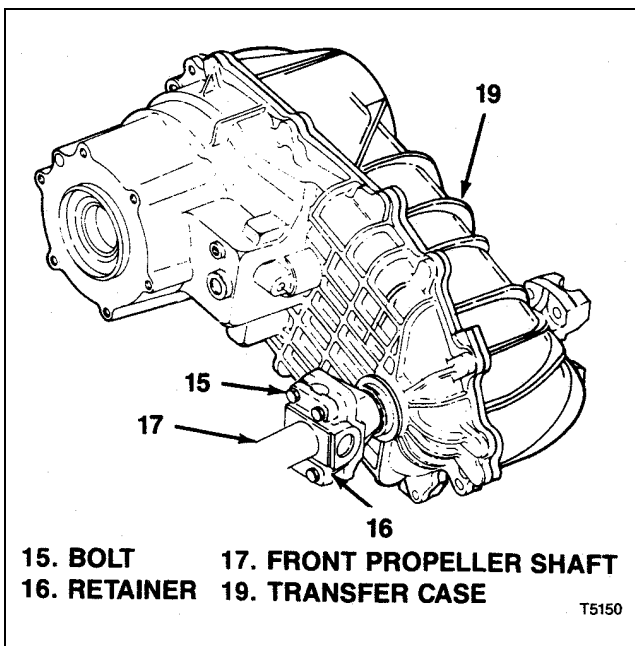

Figure 2-3. Front Propeller Shaft
2-18. REMOVING TRANSFER CASE (4-WHEEL DRIVE VEHICLES ONLY). On 4-wheel vehicles, proceed as follows to remove transfer case (see figure 2-3 and 2-4 and refer to WARNING following paragraph 2-14, step a):
- a. Remove front propeller shaft (17, figure 2-3) by removing bolts (15) and retainers (16). Observe same precautions in handling front propeller shaft as for rear propeller shaft (refer to paragraph 2-17).
2-24. INSTALLING TRANSFER CASE (4-WHEEL DRIVE VEHICLES ONLY). On 4-wheel drive vehicles, proceed as follows to install transfer case (see figure 2-3 and 2-4):
- e. Make sure mounting holes in transmission (10) and transfer case (19) are aligned and install bolts (18). Torque bolts to 23 lb-ft (31 Nm). Remove jack or stand.
- g. Make sure front propeller shaft (17, figure 2-3) is properly lubricated and install. Attach to transfer case (19) with retainer (16) and bolts (15). Torque bolts to 15 lb-ft (29Nm).